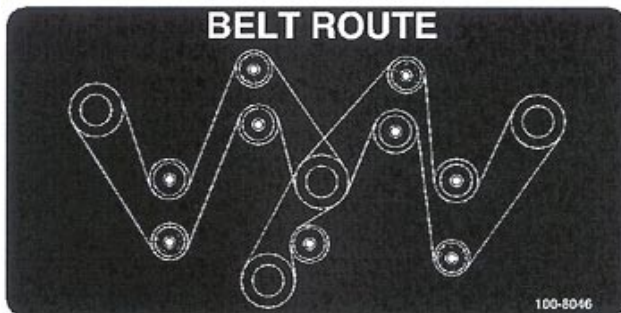

Figure 34
2. To replace gear box belt, loosen spring tension rod and remove belt. Retention new belt to 30 lb. Refer to Figure 34 for belt routing.
4. Pull spring loaded idler pulley away from belt, with hand, to relieve belt tension and remove belt. Retention new belts to 10 lb. Refer to Figure 34 for belt routing.